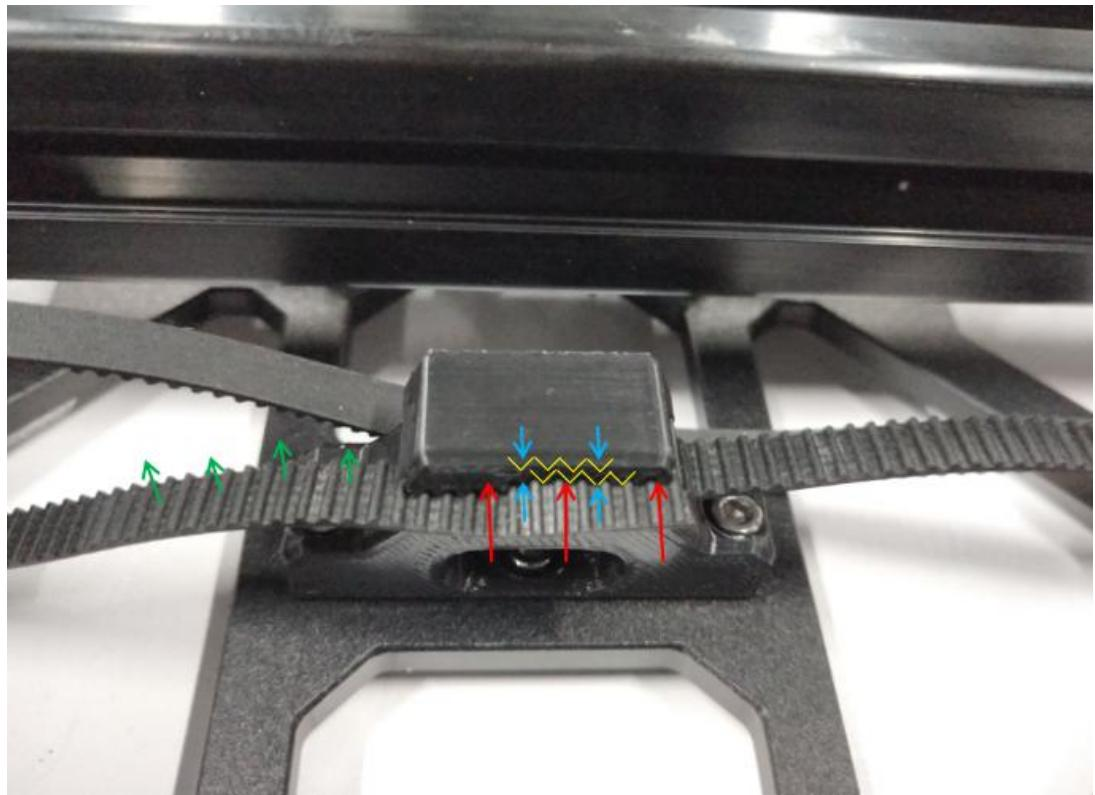

Figure 1.11.5
**Step 1-11-4:** As shown in Figure 1.11.5, install the other end of the Y-axis belt into another notch on the MINI-y-belt-holder with the teeth of the belt facing upward.